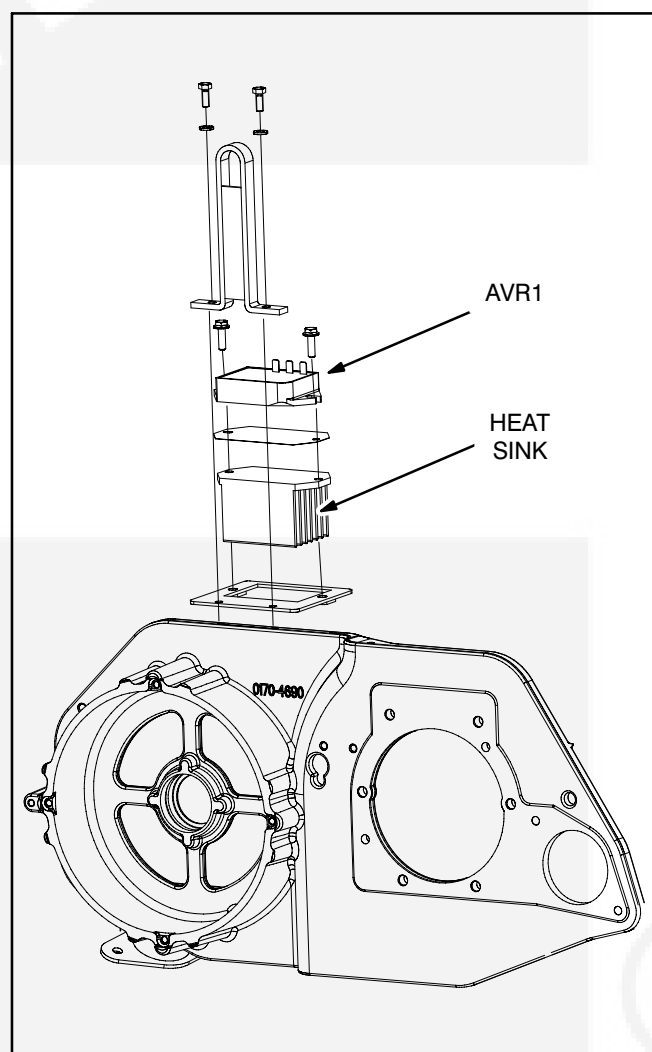

FIGURE 5-7. BATTERY CHARGE REGULATOR
**Mounting:** The regulator and heat sink are mounted as shown on the engine-generator adaptor and are accessible when the top or back panel is removed (Figure 5-7).